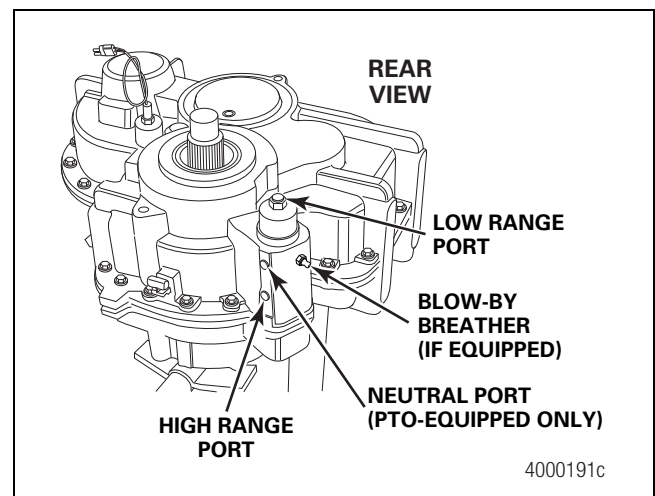

Figure 4.12
- Shift the transfer case into high range using compressed air at the high-range port of the shift cylinder. Figure 4.12 and Figure 2.4.